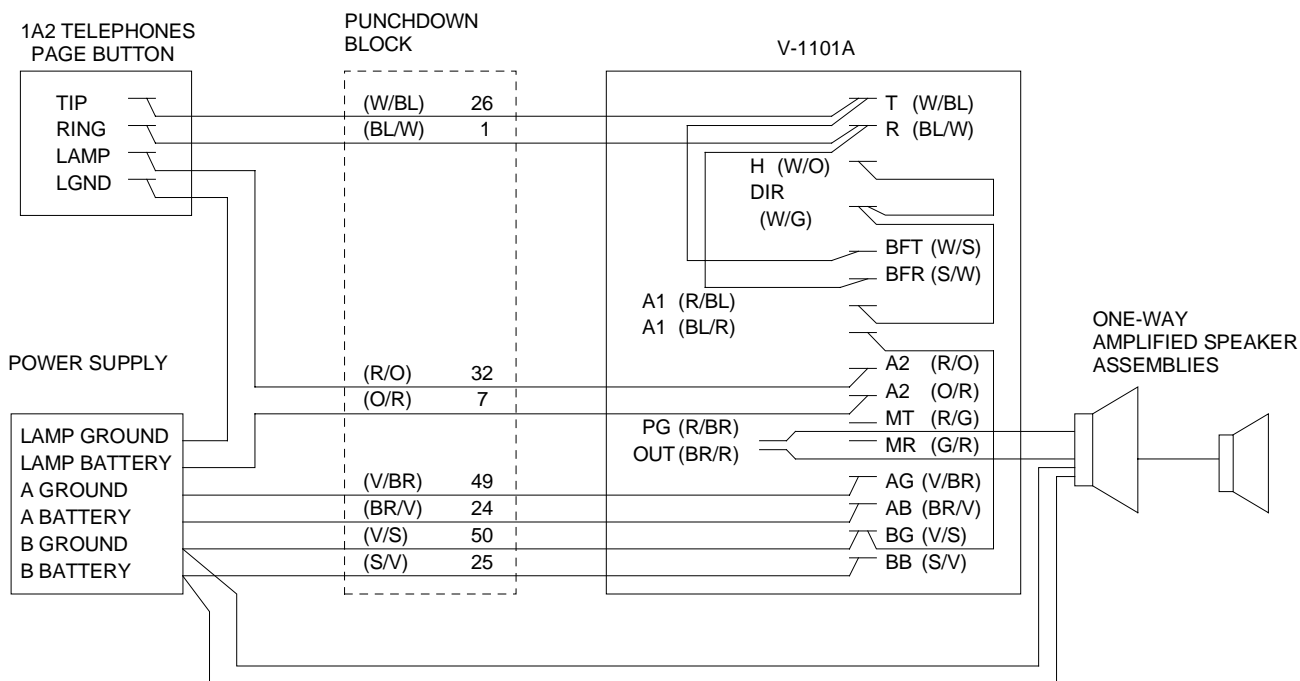

FIGURE 4
- ___ 3. 1A2 key system line button access: Proceed to Figure 4.
Connections for access by a 1A2 line button are similar to those above, except that the unit is cross-connected directly to the button of the telephone instead of to a trunk card (Figure 4). A spare set of relay contacts is used to switch lamp voltage to the phones.